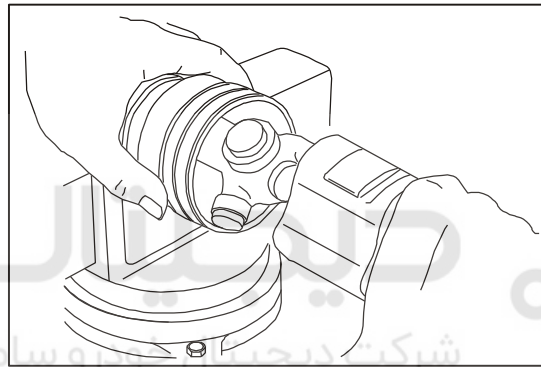

Figure 4-85 Pull out Drive Shaft and Tripod Assembly
2) As shown in Figure 4-85, make fitting markings on the drive shaft and universal joint, and then pull out the drive shaft and tripod assembly from the universal joint tube,.